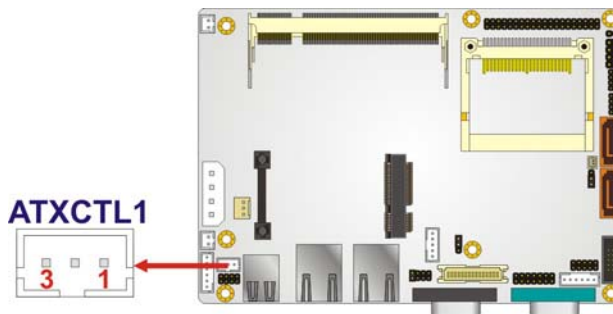

Figure 5-4: AT Power Select Jumper Location
- Jumper Location:** See Figure 5-4
The location of the AT Power Select jumper is shown in Figure 5-4 below.